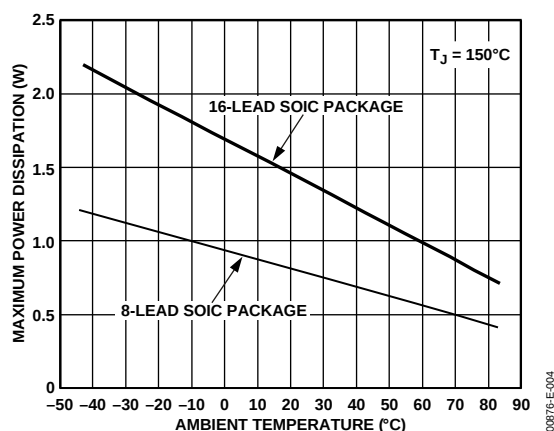

Figure 6. Maximum Power Dissipation vs. Temperature
| Small Outline (R)                            | See Figure 6                                    |
| Output Short-Circuit Duration                | See Figure 6                                    |